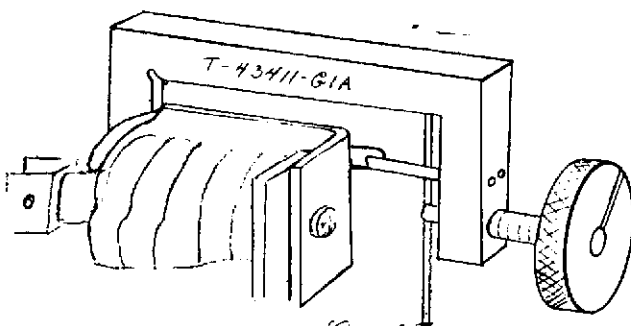

Figure 3-42. HOLDING CLAMP T-43411-G1A
- c. Use holding clamp T-43411-G1A (Fig. 3-42) to move solenoid in slightly ( $\frac{1}{2}$  to 1 turn), to eliminate buzz, or out slightly for more clutch drive. Also actuator may be rotated (Para. G-11d) slightly for tighter clutch spring warp.